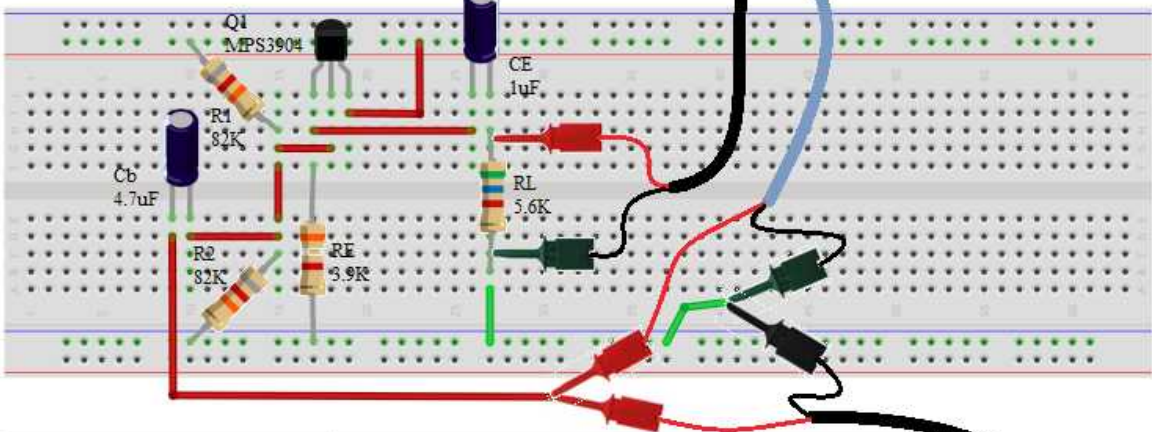

Figure 6-44: Common-collector (emitter-follower) amplifier
1. Connect the circuit as illustrated in figure 6-44. Connect the power supply after double-checking all connections, especially the transistor leads.
In this circuit of common-collector amplifier, figure 6-44, you will find out that as you replace the load resistor with a lower value the output voltage is still not big that is because the load is so small. The circuit is being overloaded. For example, substitute 1 K Ω , 100 Ω , and 10 Ω resistors (10 Ω resistor is close to the loudspeaker resistance, i.e 8 Ω or 16 Ω) for R_{load} , reducing the input voltage at each value, so that the output waveform remains undistorted. Lower resistance loads can only be driven at lower voltages because the ac currents in the transistor are much higher at lower values of load resistance. You will also see the output signal begin to “lag” behind the input signal at these low load values. This is because the impedance of the output coupling capacitor at 1KHz becomes significant for loads below 100, introducing phase shift in a series RC circuit. As seen, lowering the load distorts the output. As the main application of the common-collector is not to overload the input (impedance matching) because of its high input impedance Z_{in} , using low load needs to change the biasing conditions such as reducing also the value of R_E , and both R_1 and R_2 . As the emitter coupling capacitor affects the signal for low load this needs to be increased so that the gain remains to be the unit.